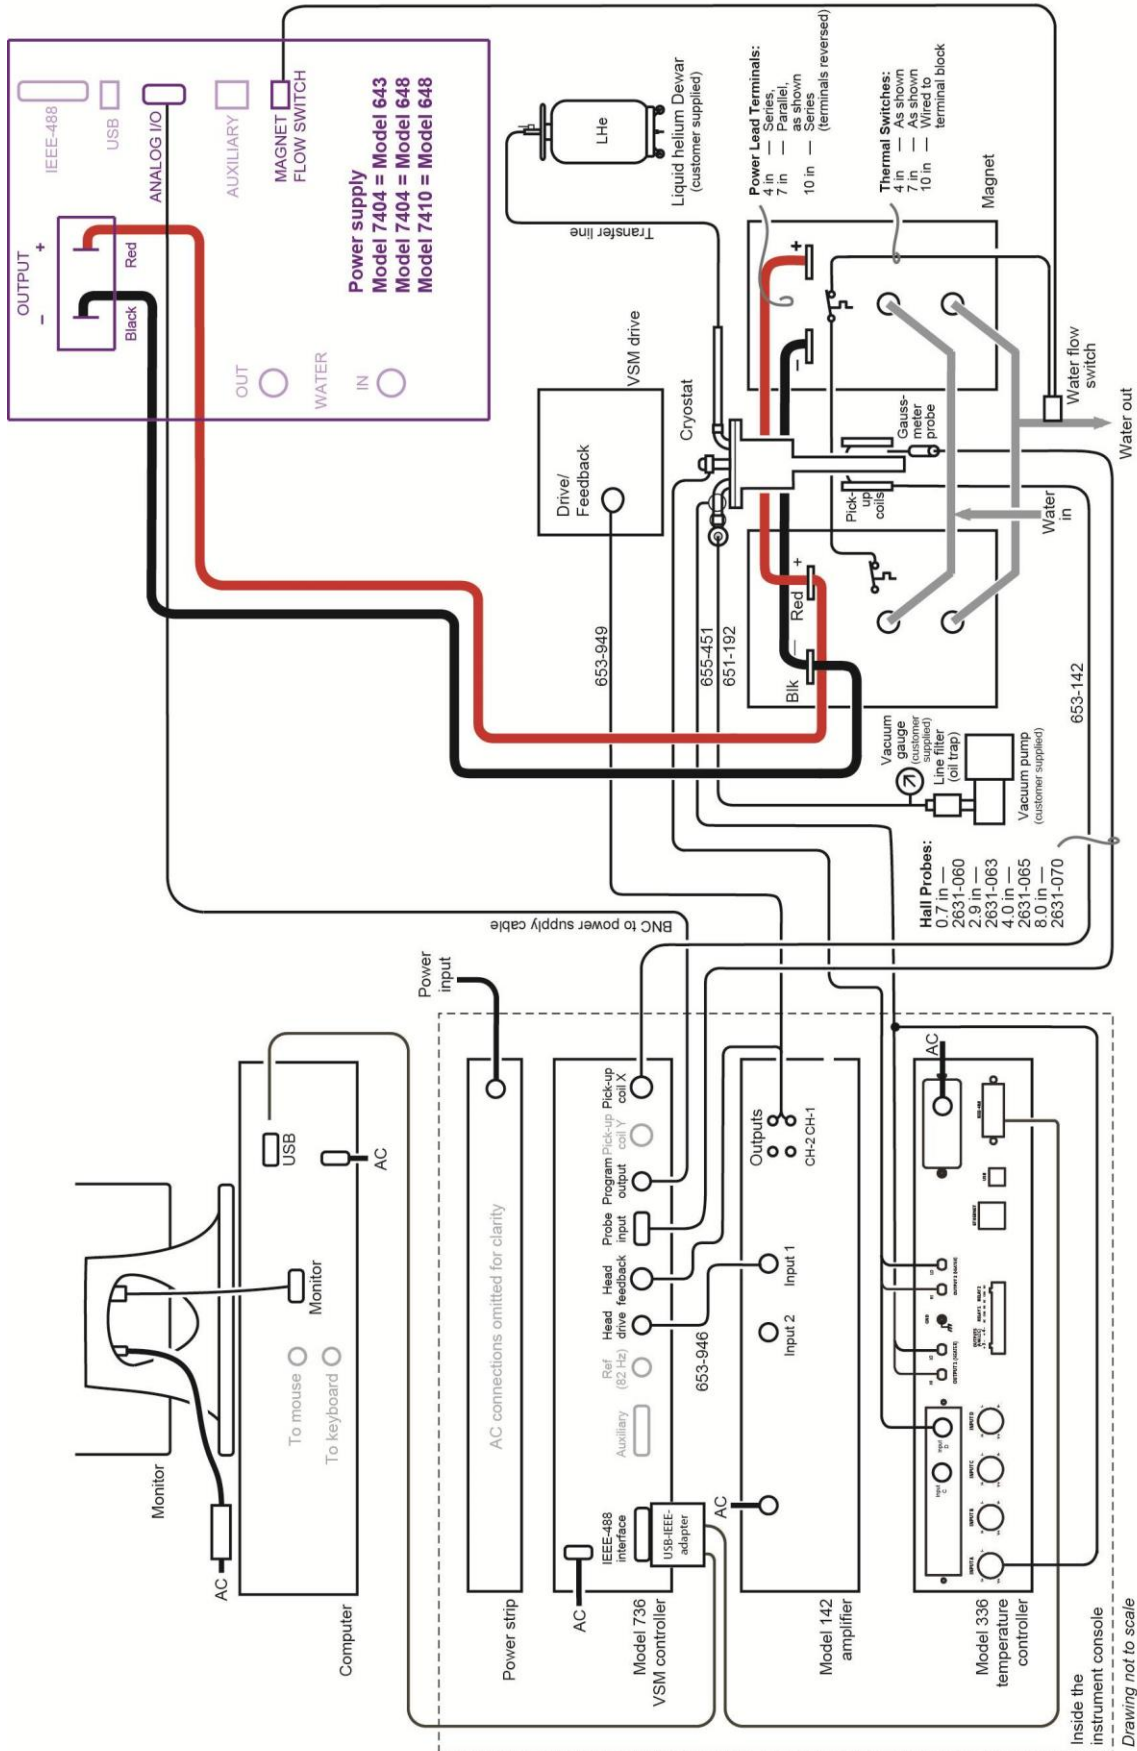

Figure 3-3. Typical 7400 Series VSM System with Optional 74018 Wiring
7. Make Connections (see Figure 3-3)